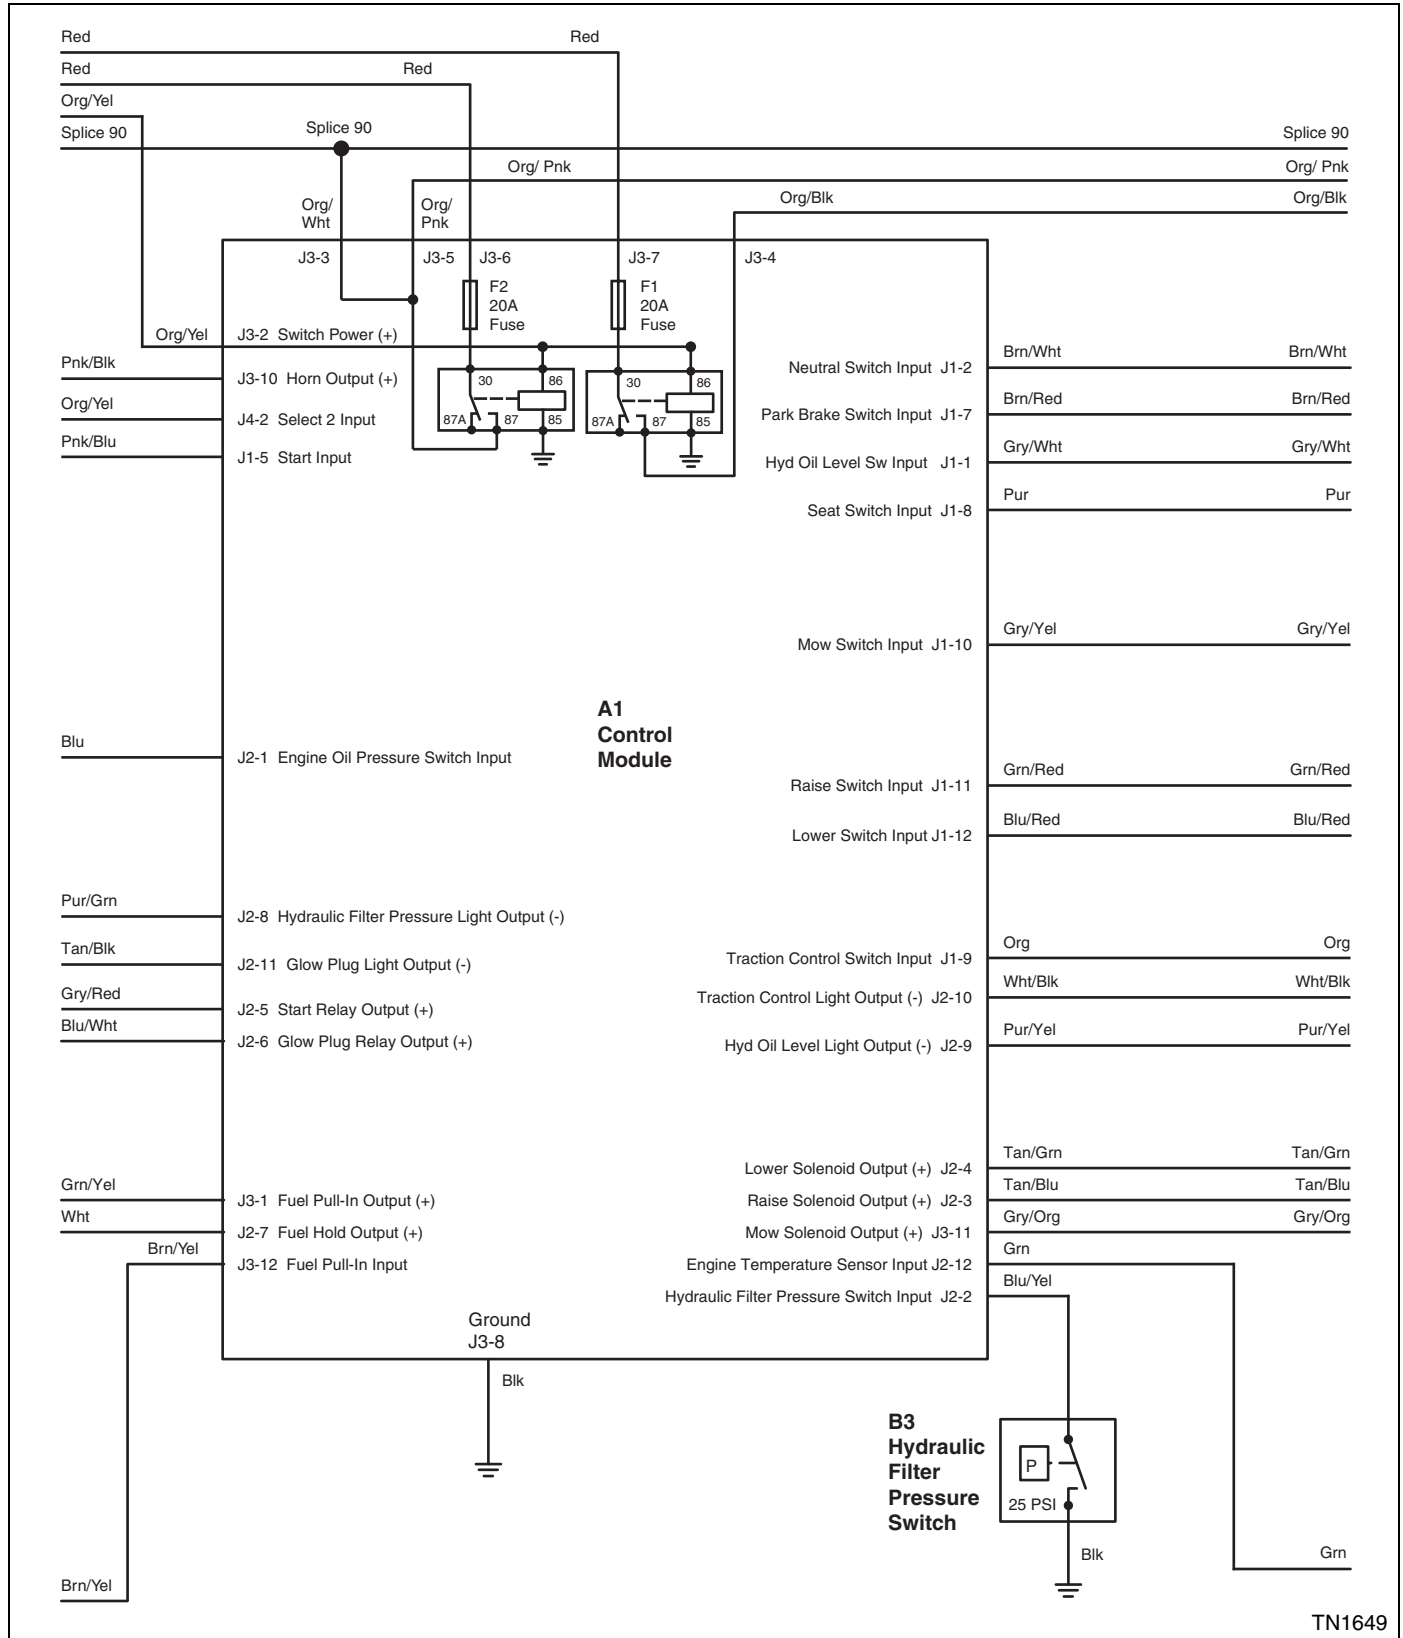

Figure 4-2
- A1—Control Module (See Figure 4-2.)
- B3—Hydraulic Filter Pressure Switch (See Figure 4-2.)
- J1—Control Module Connector (See Figure 4-2.)
- J2—Control Module Connector (See Figure 4-2.)
- J3—Control Module Connector (See Figure 4-2.)
- J4—Control Module Connector (See Figure 4-2.)